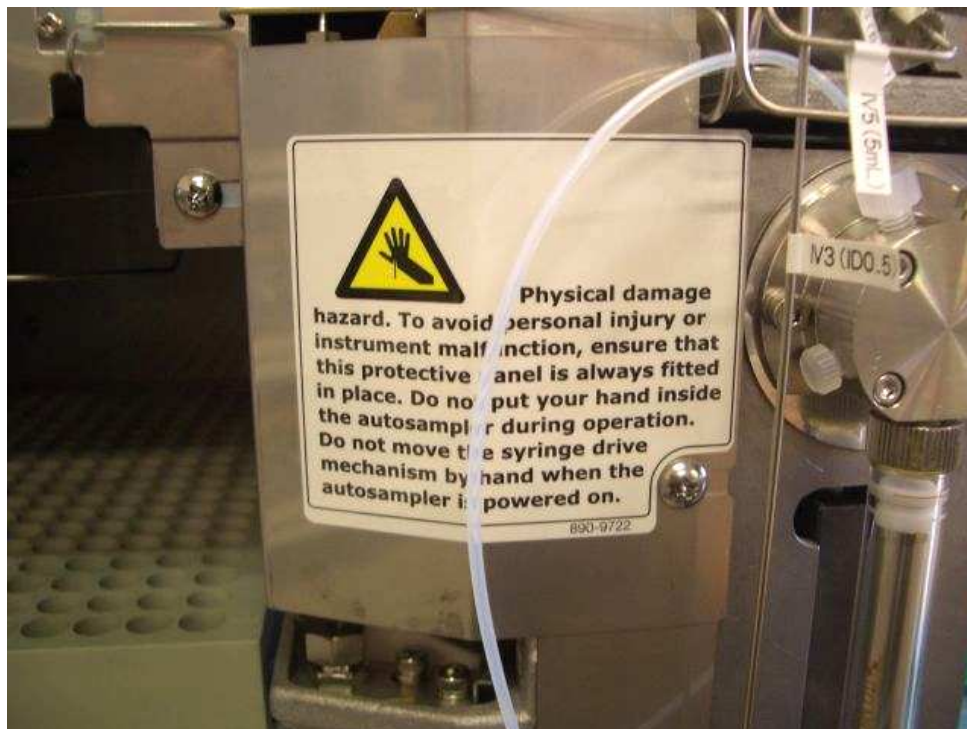

Figure 2: Autosampler Protective Cover
3. Loosen the screws and remove the protective cover from the front of the auto sampler (*Fig. 2*) by sliding the cover to the left.